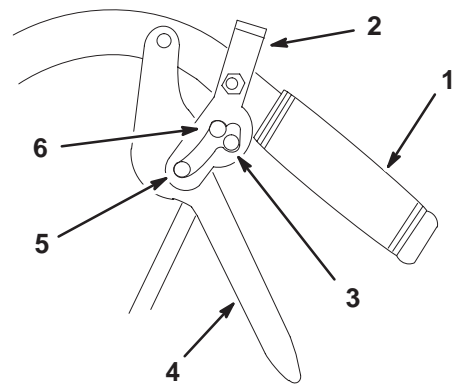

Figure 14
- Place thumbs on the upper part of of locks and move them back (Fig. 14).
- Place thumbs on the upper part of of locks and move them forward until in forward slot (Fig. 14).